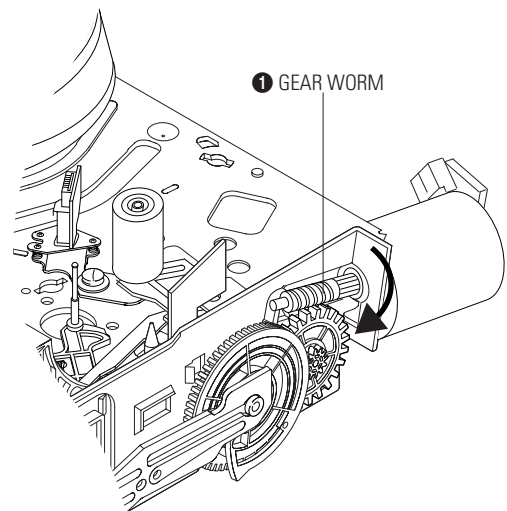

Fig. 3-40
- 3) Rotate Gear Worm ❶ clockwise using screw driver again up to the state of eject mode and then pick out the tape. (Refer to Fig. 3-40)